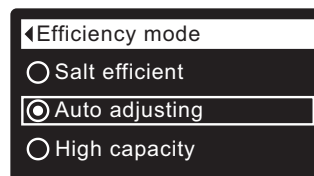

FIG. 83
- 8a. **Efficiency mode:** If the desired efficiency mode already has a dot next to it (See Figure 83), go to Step 9. Otherwise, press the DOWN (▼) or UP (▲) buttons to scroll to the desired efficiency mode, then press SELECT (O) to choose it.